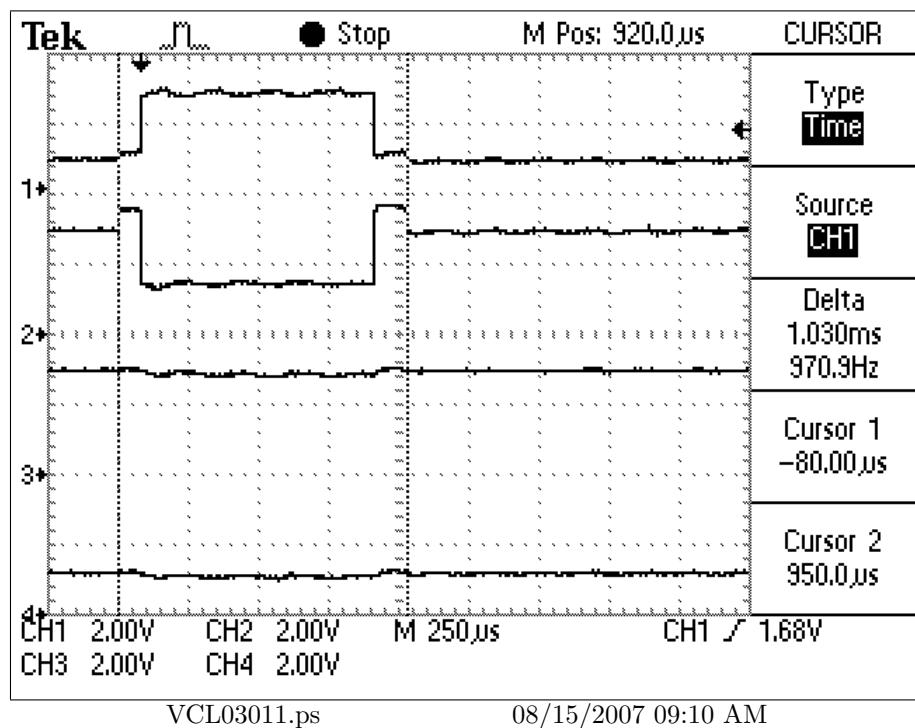

Figure 11: Timing for byte 1 expanded [capture3:byte1ex]
3. In Figure 11, page 17, Figure 11, page 17 and Figure 11, page 17 the three bytes are shown in an expanded time frame.